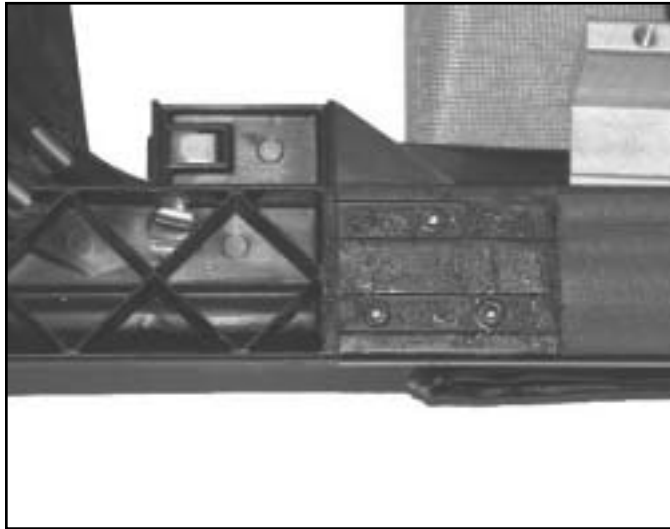

Figure S-3
3. Peel back the foam tape 11 inches (28 cm) from the front rail to the track on the side being replaced to expose the three (3) retaining rivets. See figure S-3.